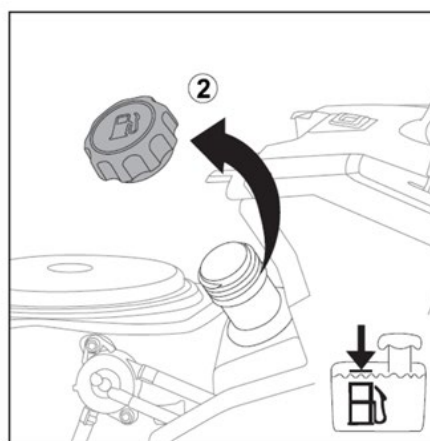

Fig.12B
3. Retire la tapa de combustible. (②, Fig.12B)